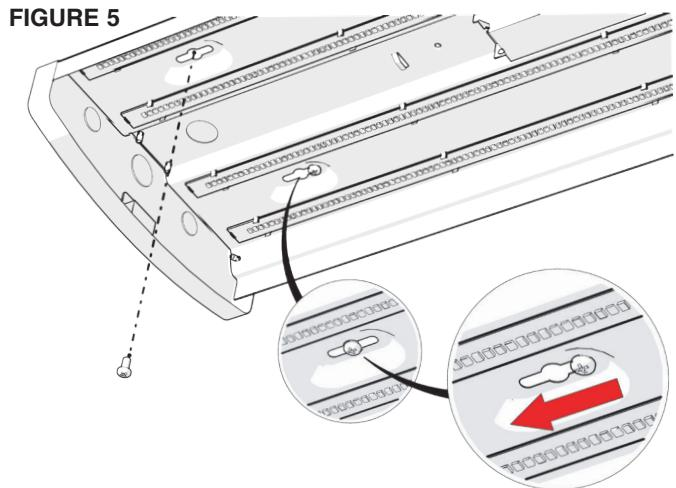

FIGURE 6
7. Select desired wattage and CCT on driver. See **Figure 6**.
8. Select desired wattage and CCT on driver. See **Figure 6**.